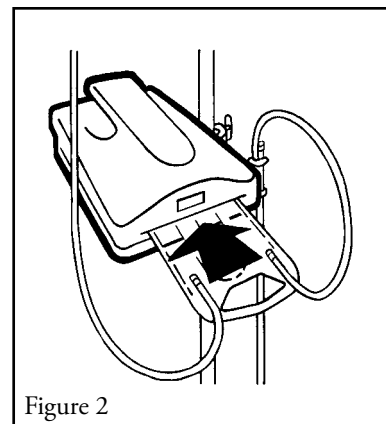

Figure 2
2. Slide the irrigation fluid warming cassette into the slot in the warming unit. The cassette can only fit into the device one way (see figure 2).